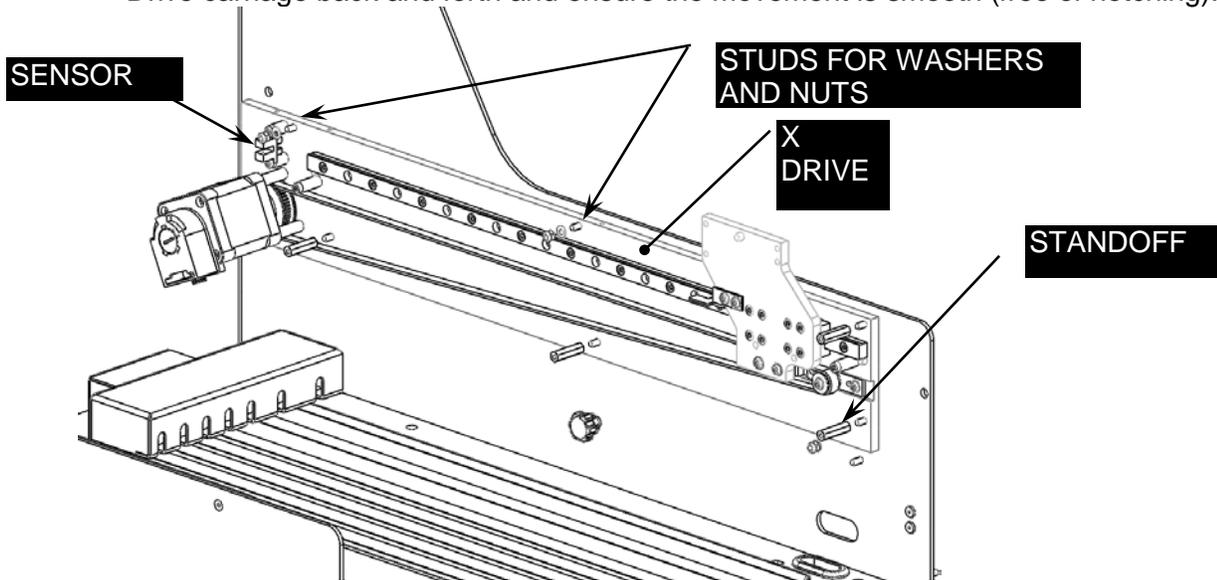

Figure 9-4: Removing the X Drive Assembly
2. Remove sensor (Figure 9-4) by removing the wires and the screws that attach it to the drive assembly.
3. The X drive assembly is mounted to the system using the six PEM Studs on the right hand side of the Chassis (Figure 9-4). When replacing the assembly, slide the X Drive carriage back and forth and ensure the movement is smooth (free of notching).